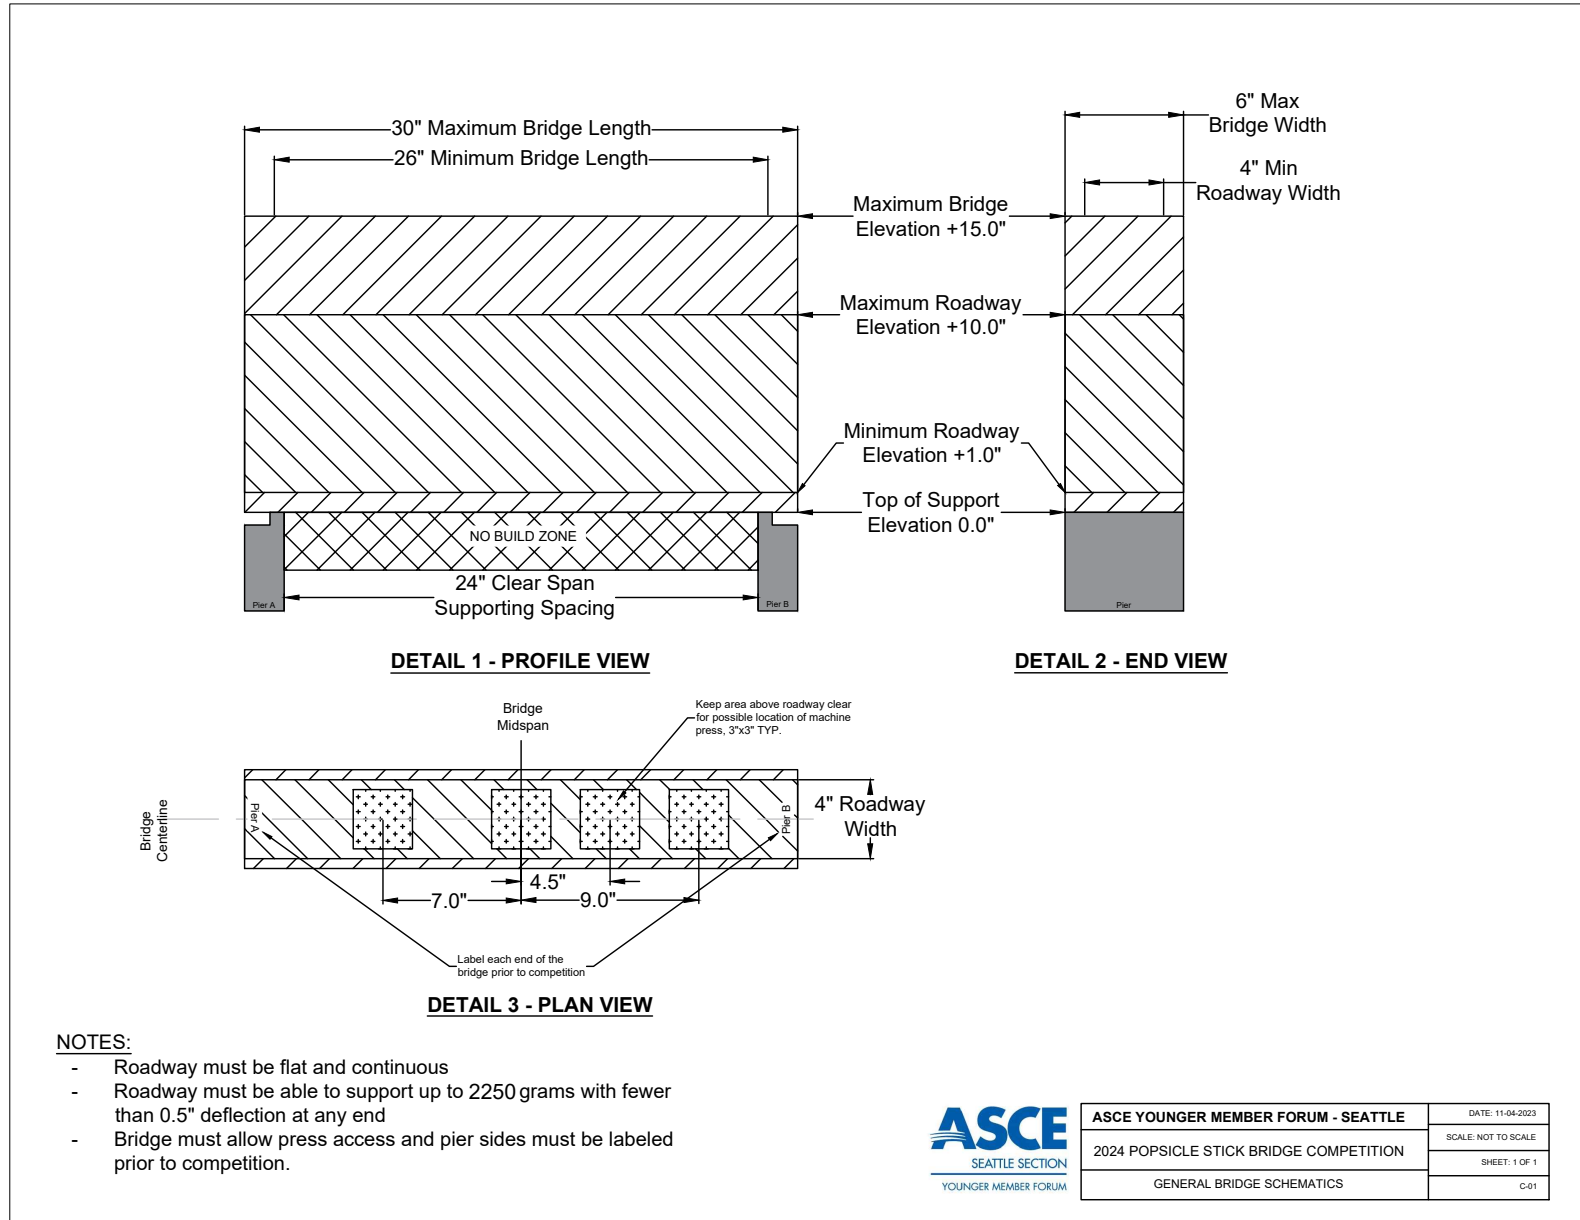

Figure 3.2: General Bridge Schematics
PIERS are portions of the structure that support the bridge and connect it to the ground. Most bridges will have at least two piers, with long ones having many more. Piers breakup the entire bridge length into smaller spans. In our competition, we will provide the piers as part of the testing apparatus. See Figure 3.2 for a diagram.
- a. The height of the bridge shall be less than or equal to **15-inches** measured from the bottom elevation (lowest point) of the structure to the top elevation (highest point) of the bridge. See Figure 3.2.
- b. Structures above the roadway are allowed but must keep space for a vehicle to cross the bridge and loading at the positions designated in Figure 3.2. The Roadway deck shall be between **1-inch** and **10-inches** from the top of the piers.
- d. The bridge's **overall** length shall be greater than or equal to **26-inches** but shall not exceed **30-inches**. See Figure 3.2.
- e. The clear span between the provided supports will be **24 ± ½ - inches**. See Figure 3.2.
- f. No part of the bridge shall be within the No Build Zone. See Figure 3.2
- b. The roadway shall be continuous with no gaps (natural warping okay). The minimum dimensions of the roadway are: (minimum bridge length [26-inches]) X (4-inches). See Figure 3.2.
- b. The location of the load will be determined on the day of competition and will be at one of the four indicated areas in Figure 3.2. *The loading location will be the same for all bridges in the competition.*
- d. The machine press is **3-inches by 3-inches**. Ensure there is a clear space above the possible locations of the machine press to allow load application to the roadway. See Figure 3.2 for a plan view (top view) of the bridge, including the areas to keep clear for possible locations of the machine press. **Using a permanent marker, label your bridge with 'Pier A' on the road at one end of the bridge, and with 'Pier B' on the road at the other end prior to arriving at the competition site.** If there are no marks, then a judge will determine the locations of Pier A and Pier B for you.
- The provided supports will be placed 24 inches apart (clear span). See Figure 3.2.
- The bridge shall not be constructed to exert any horizontal loads on the provided supports, other than friction at the top surface. The bridge shall not be within the bridge abutment no-build zone, as shown in Figure 3.2.